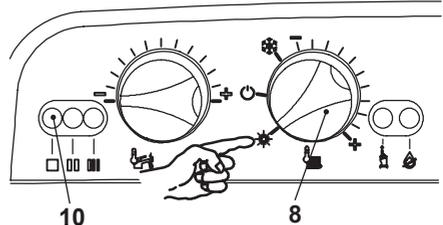

Fig. 2.5
- If D.H.W. supply only is required, position the function selector 8 as in Fig. 2.5. The appliance operation light 10 will flash every 2 seconds (operating boiler).